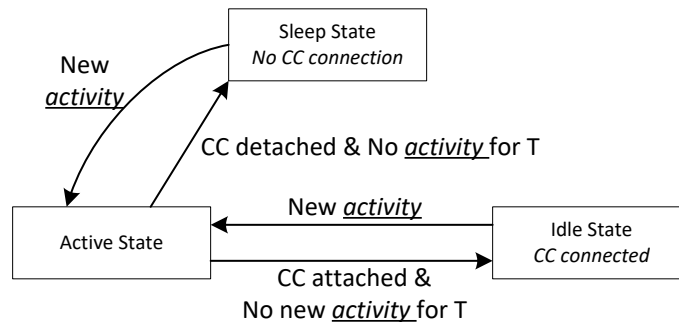

図 8-33. Flow Diagram for Power States
The TPS25751 can operate in one of three different power states: Active, Idle, or Sleep. The Modern Standby mode is a special case of the Idle mode. The functionality available in each state is summarized in 表 8-7. The device automatically transitions between the three power states based on the circuits that are active and required. See 図 8-33. In the Sleep state, the TPS25751 detects a Type-C connection. Transitioning between the Active mode to Idle mode requires a period of time (T) without any of the following activity: